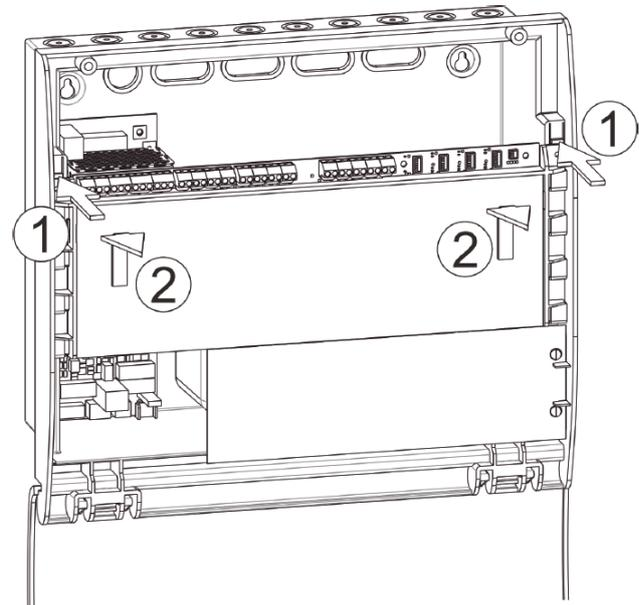

Figure 14. Remove the PCB shelf
- To remove the PCB shelf push the clips down ①, then push the shelf towards the top of the back box and then lift forwards ②. See Figure 14.
- Fit the PCB shelf and cables by following the reverse instructions (see Figure 14 on page 12).